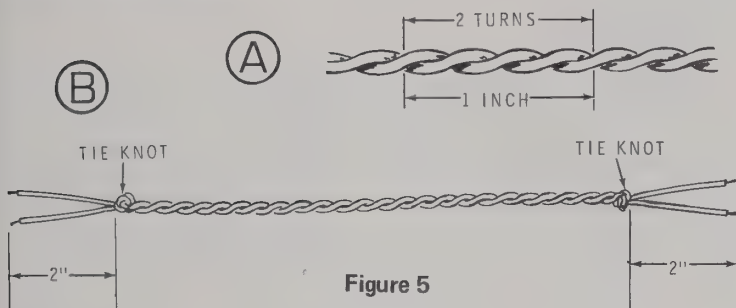

Figure 5
- () Refer to Figure 5 and gather the black and the red wires and twist them together approximately two turns per inch.